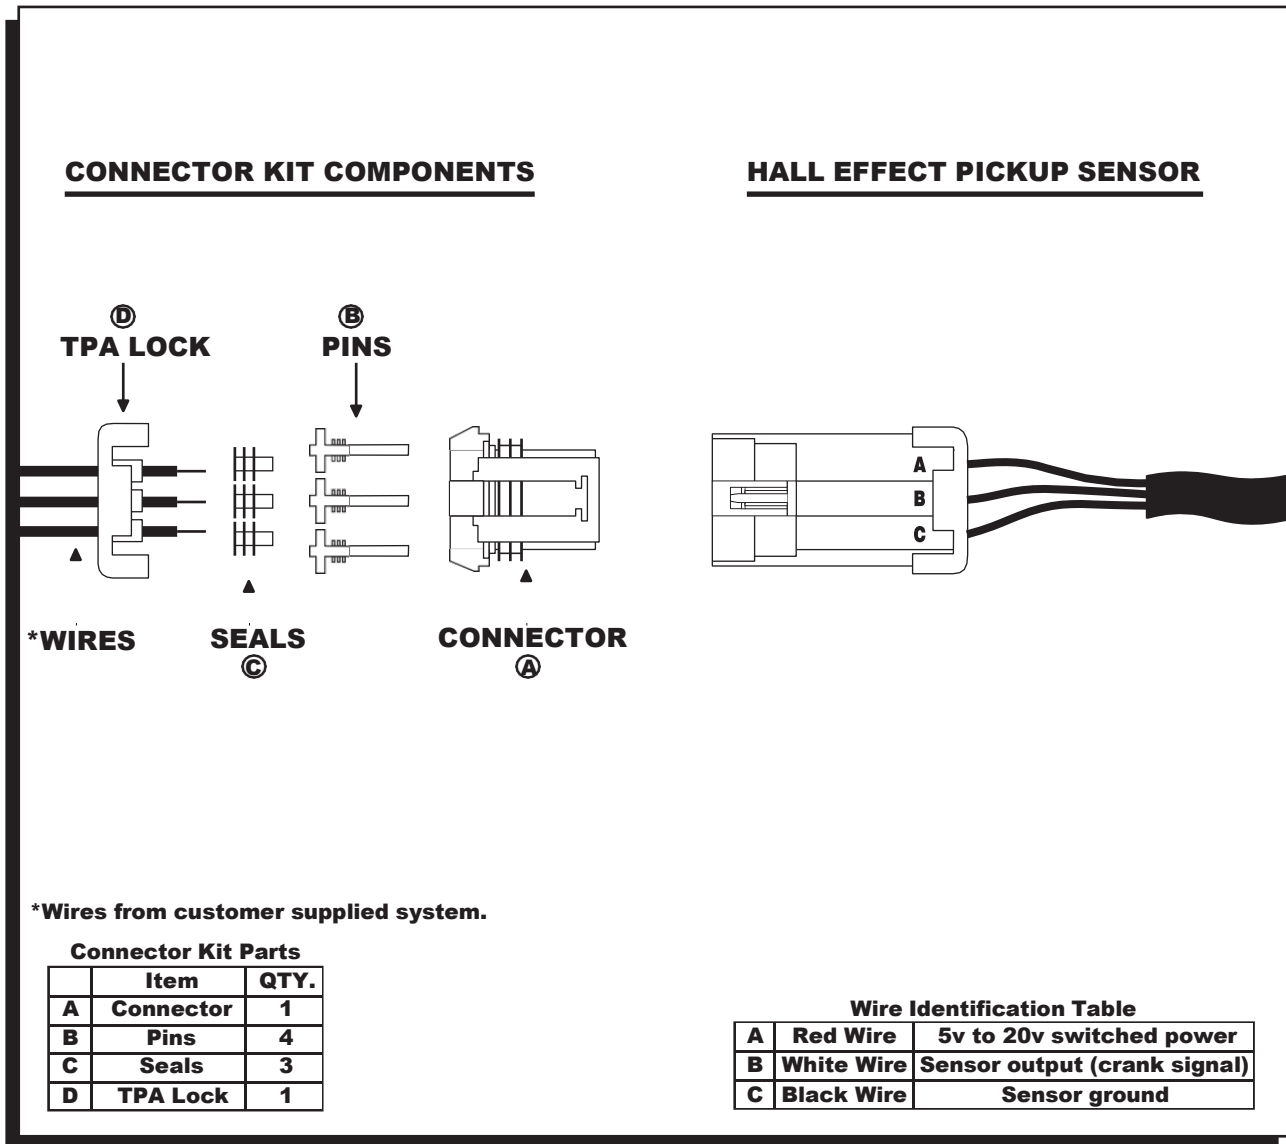

Figure 3 Wiring the Pickup Sensor.
- The following is the proper wiring for sensor: (Figure 3)